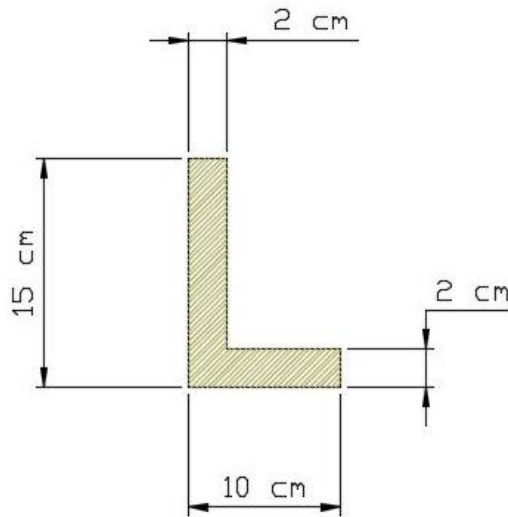

Fig 2
3. Calculate the moment of inertia about horizontal and vertical gravity axes (I_{xx} and I_{yy}) of the angle section shown in Fig 2. (14 Marks)